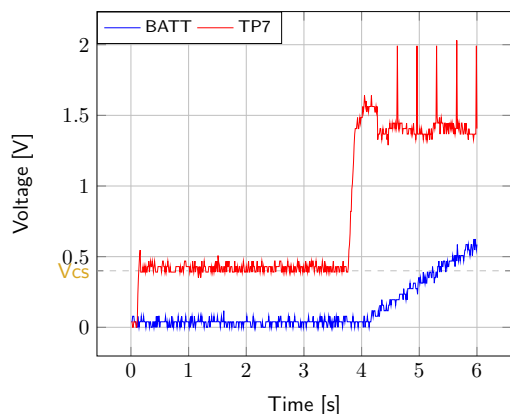

Figure 6: AEM40940 behaviour during cold start
- **TP7**: Equal to the cold-start voltage during the cold-start phase. Regulated at the selected MPPT percentage of **Voc** when cold start is over (see Figure 6). Be careful that the cold-start phase time will shorten with the input power. Limit it to ease the observation.
- **BATT**: Starts to charge when the cold-start phase is over (see Figure 6).